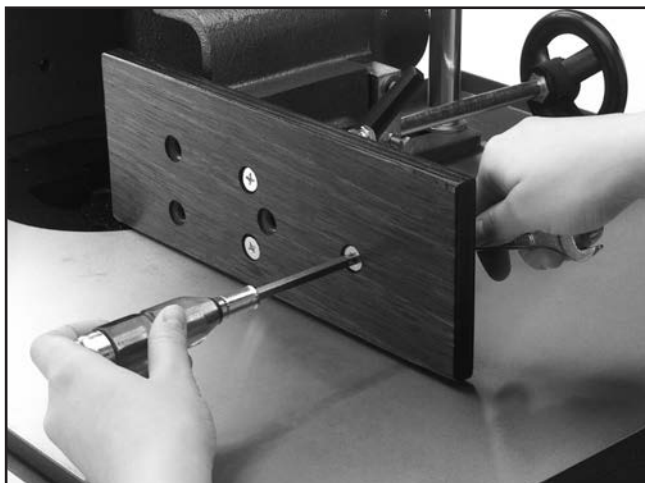

Figure 18. Attach wooden fence assembly.
1. Secure the wooden fence pieces (as shown in **Figure 18**) with the $\frac{5}{16}$ "- 18 x 1" Phillips screws, washers, and hex nuts provided.